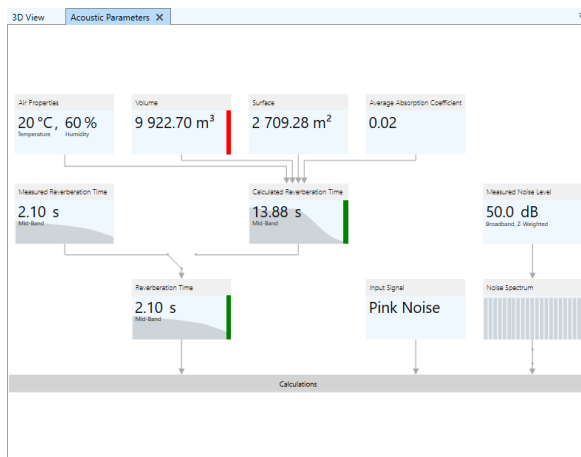

Figure 7.22 Room volume indicator is red due to missing or inverted faces.
1. Check the room volume using the **VOLUME** display in the **ACOUSTIC PARAMETERS** window (Figure 7.22).